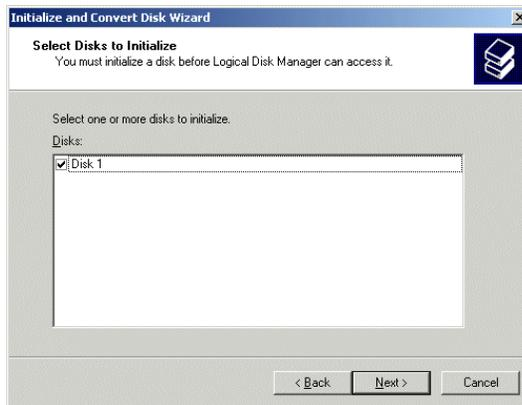

Figure 2-18
- 18) Click the **Next** button to be presented with the **Select Disk to Initialize** screen. Click the **Disk 1** item as shown in Figure 2-18.